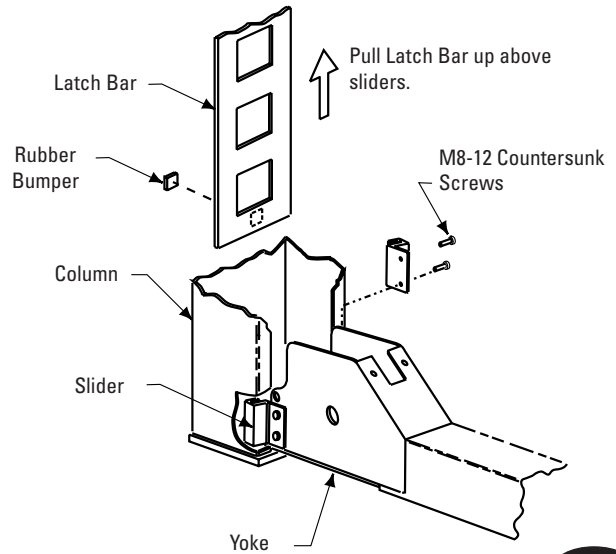

Fig. 7
- C. Thread the jam nut down the threaded stud as far as possible. Stick rubber bumper to bottom of latch bar, see Fig. 7. Place the latch bar in the back of the column, Fig. 5a.
- D. Start yoke end into the column, allowing slider bolt holes to stay exposed, Fig.7. Then bolt sliders onto each side of the yoke end with M8-12 countersunk screws provided. When both sliders are attached, push column toward yoke end until sliders touch latch bar.